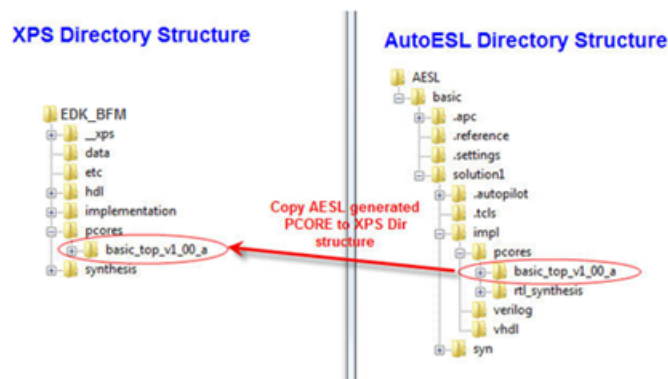

Figure 1-36: AutoESL Directory Structure
- After the FPGA is configured, you will be prompted to enter values for A and B. Figure 1-36 shows an example output of the application.